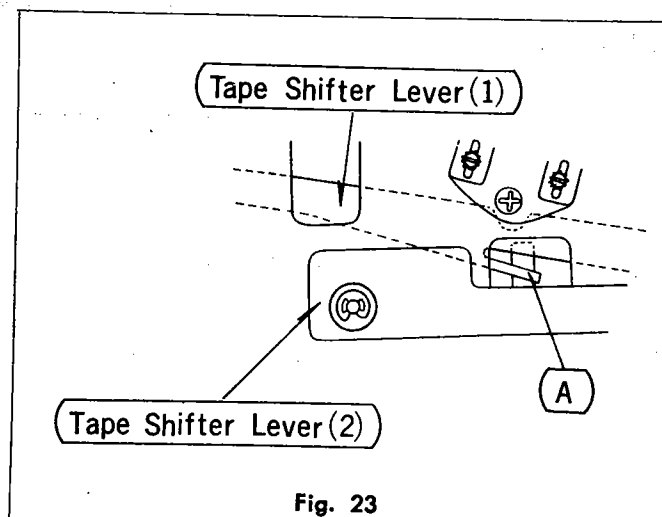

Fig. 23
1. When the Pause Lever is pulled down in the playback mod: The Pad Plate should move away from the Head by the time when (or at the same time that) both the 2 Pressure Rollers move away from the Capstan. If not, make the adjustment by bending the (A) part of the Tape Shifter Lever (1) by using a screwdriver. (See Fig. 23)